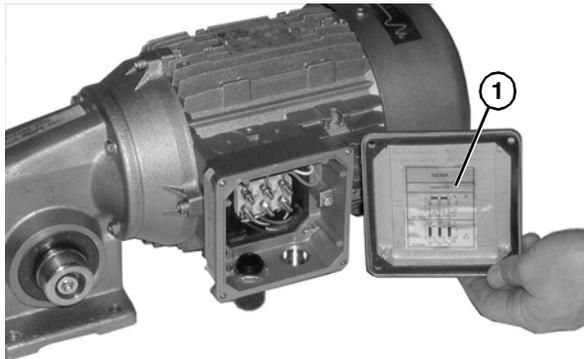

Figure 39
2. Refer to the wiring diagram (Figure 39, item 1) on the inside of the junction box cover.